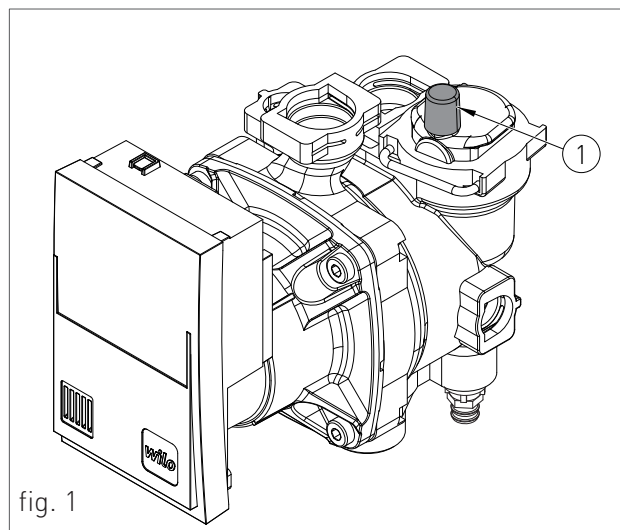

fig. 1
- › unscrew the 1/2" cap (A-fig.1), placed on the back side of the cylinder;
1. slightly loosen the cap of the circulator jolly valve [1-fig. 1] to release the air from the system;